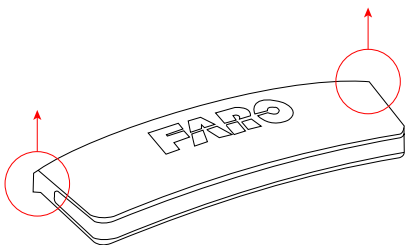

Figure 4-9 Pull here to remove
2. Remove the status indicator by grasping it with two fingers on the corners shown in Figure 4-9 and pulling vertically.